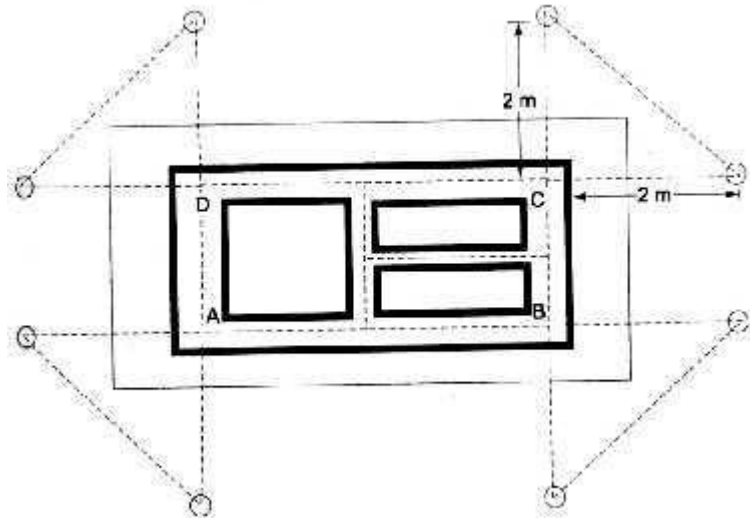

Fig.31 Setting-out by Using Rectangle Formed by Centerlines of the Outer Wallsof a Building
2. Since these pegs are not permanent and will be lost during excavation, the sides of the rectangle are produced on both the sides and permanent stakes are fixed on each of the prolongations, at a fixed distance, say 2m, as shown in Fig.31.